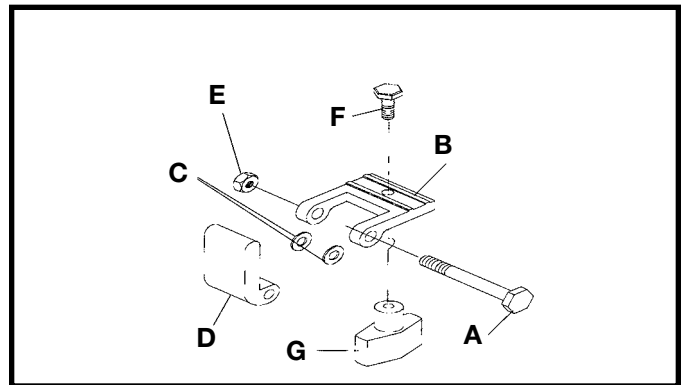

Fig. 60
1. Insert 1/4-20x2" bolt (A) through hole into one side of bracket (B) Fig. 60.
2. Place one washer (C), on bolt (A), and slide bolt through flip stop (D) Fig. 60.
3. Place the other washer (C), on bolt (A), and slide bolt (A) through other side of bracket (B) Fig. 60.
4. Screw locknut (E) onto bolt (A) and tighten until the flip stop will pivot and stay in the "UP" position.
5. Insert bolt (F) through bracket (B) as shown and screw knob (G) onto bolt (F) approximately 3 complete turns. Fig. 60.